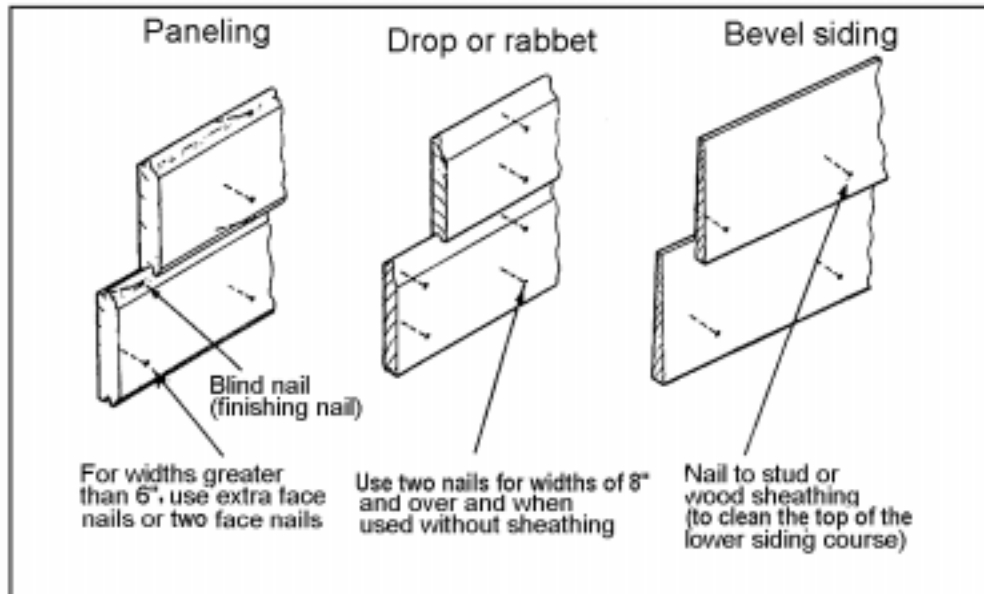

Figure 051-236-1201-2
- b. Inside corners (wood siding) (Figure 051-236-1201-2).
- (1) Nailing strips are square strips fastened to the inside corner with the siding butting to them.